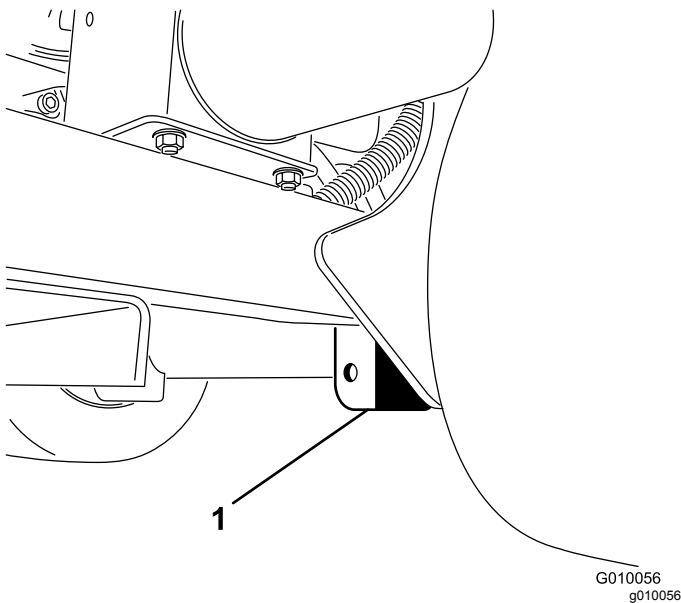

Figure 39
3. Place the jack securely under the frame plate just inside of the rear wheel (Figure 39).